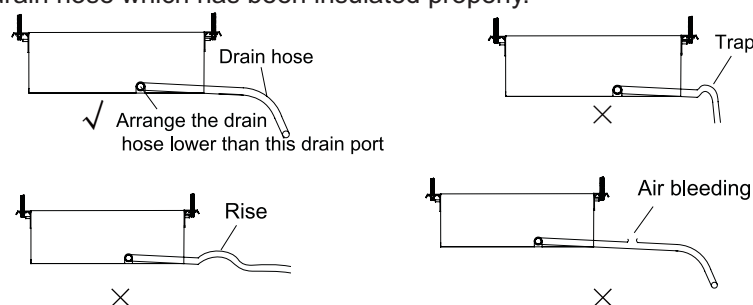

Figure 3-1-8
- (1). Install the drain hose with downward gradient (1/50 to 1/100) and no risers or traps are used for the hose. (Figure 3-1-8)
- (2). Be sure there is no crack or leak on the drain hose to avoid the formation of air pocket.(Figure 3-1-8)